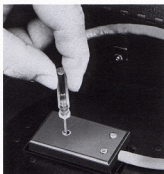

Figure 9
4. An adjusting screw for the attenuator is reached via an aperture (Fig. 2, item 18) in the sensor holder. See Fig. 9. To **attenuate** the light, turn